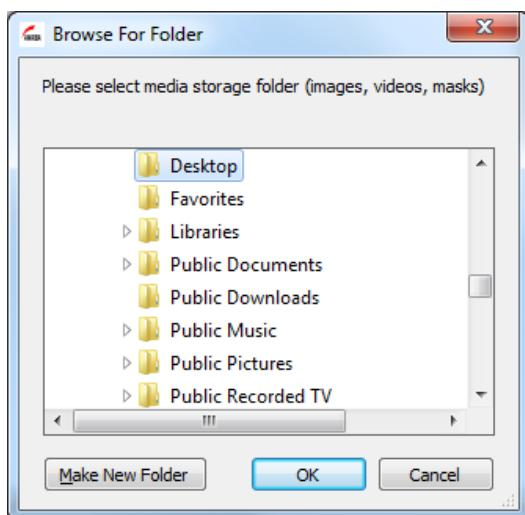
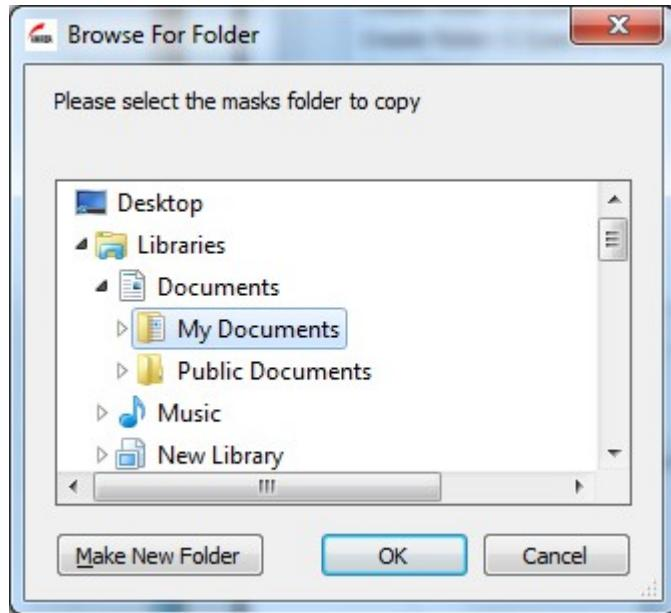

Figure 3: Choose the media storage folder
Figure 4: Choose mask copy folder
- 5) Select where the correction masks folder are, as in figure 3. This will copy all the correction masks (awplt, awblc and awwlc files) from that folder, to the folder chosen in figure 4.